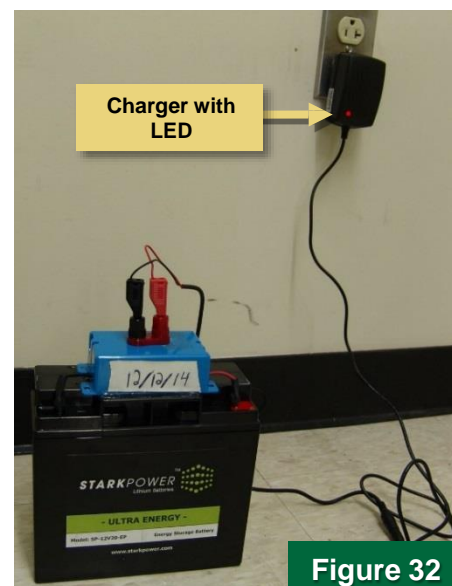

Figure 32
3. Plug the charger into the 110 V AC standard wall outlet (Figure 32). When the LED on the charger turns green, the battery is fully charged. This can take up to 20 hours per battery, but does not require constant supervision.